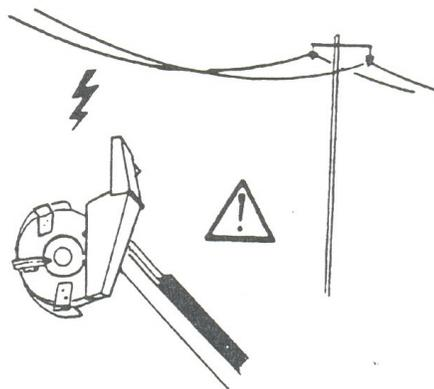

FIG. 5
- Pay special attention when working under or near electric lines, an electric arc can be released. (FIG. 5)